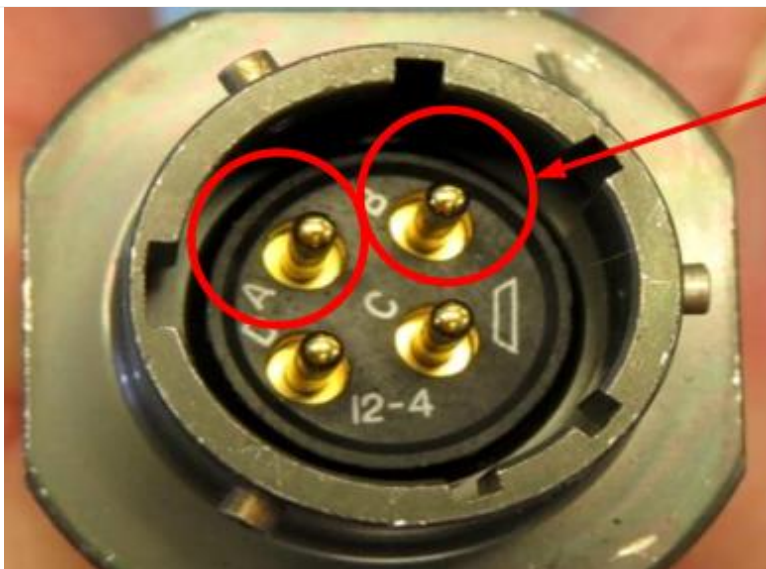

Figure 70. Use a DMM to Measure the Resistance.
STEP 26 | Use a digital multi-meter to measure the resistance of the two cables between pins A and B (circled in red in **Figure 70**) on the cables that connects the heating components.